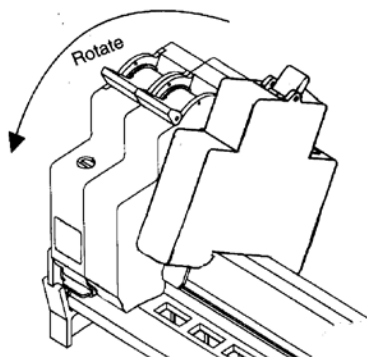

Fig 7.1
- MCBs and RCBOs are mounted in the same manner as main incoming devices (Fig. 7.1). Ensure the retaining clip engages.